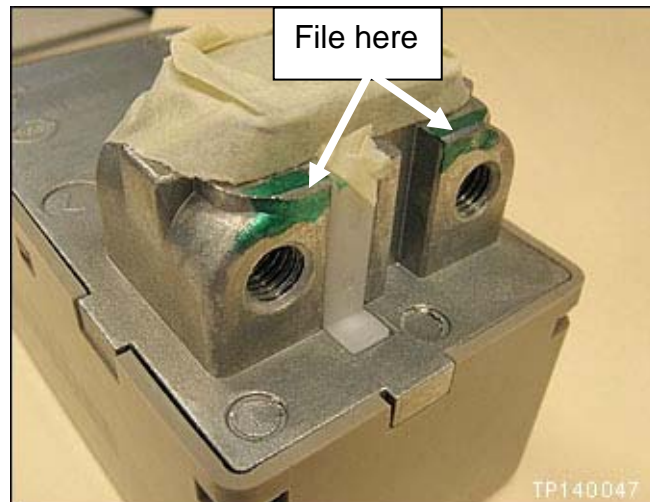

Figure 3
- Use tape to cover openings and prevent metal shavings from entering the assembly (see Figure 3).